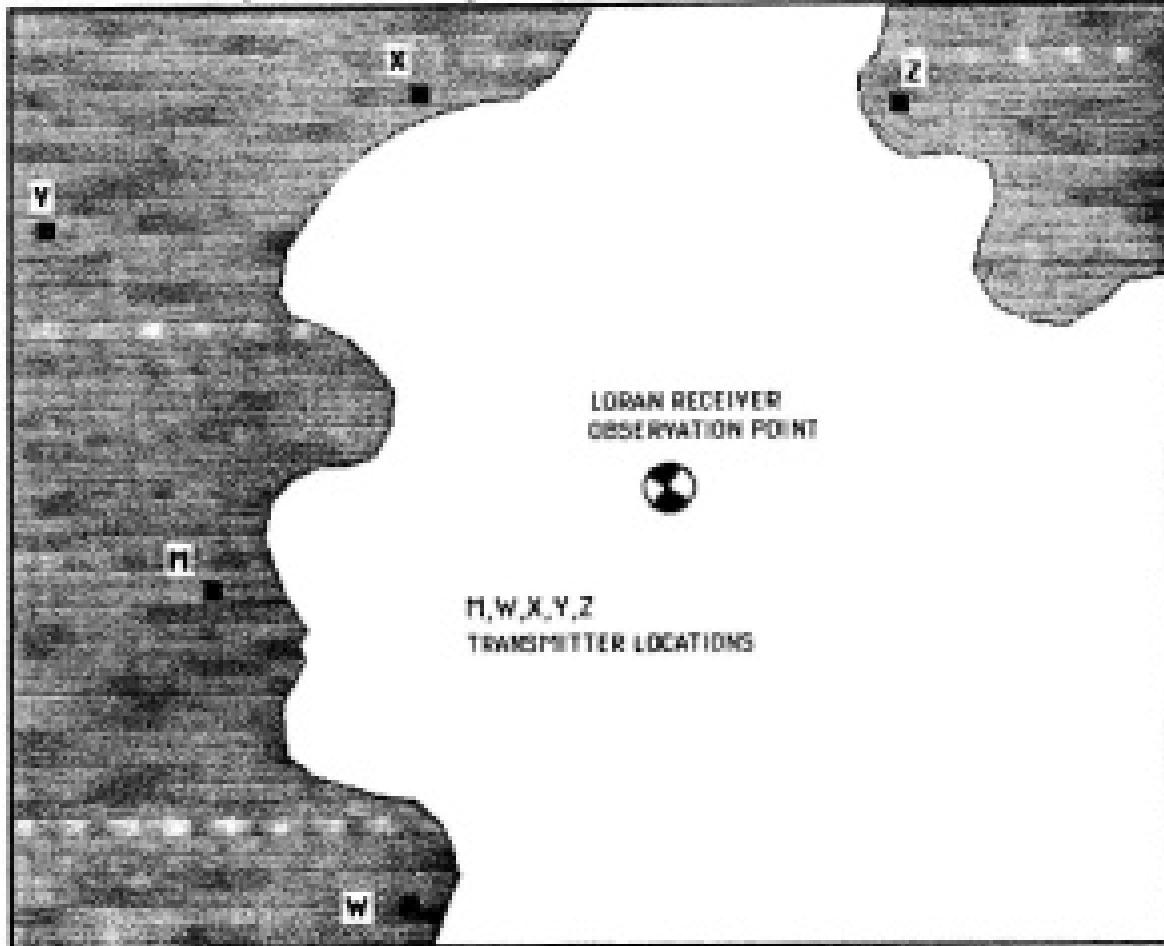

Figure 3 Typical Loran C Chain Configuration
Usually, the Loran C receiver must be programmed to recognize and identify the MASTER station GRT of the Loran C chain. Once programmed, the receiver can measure the TD's, and present them on a digital display. Figure 3 illustrates a typical Loran C chain configuration. The MASTER (M), and Secondaries W, X, and Y, are separated by several hundred miles.